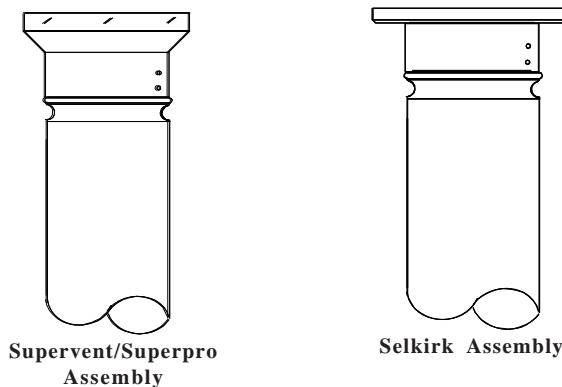

Figure 1B
Step 3. Wrap the Finishing Band over the crimped end of the DSP and the Chimney Pipe Adaptor. Ensure it is over the bead and snug to the beveled edge or to the Basecap. Mark this position using the 2 pre-punched holes in the Finishing Band as a template. Pre-drill with a 3/32 metal drill bit and secure the Finishing Band with the 2 supplied black sheet metal screws. Figure 1B shows when it is all assembled.